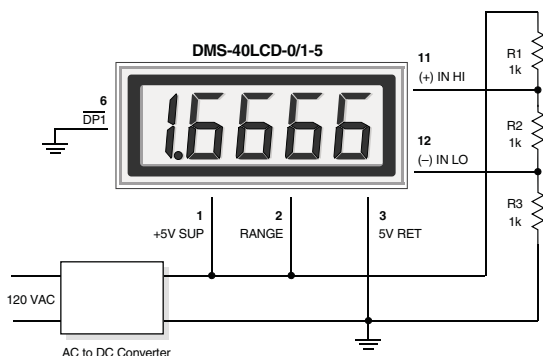

Figure 3. Differential Input Configuration (5V-Powered Models)
- 2. Differential Input Configurations:** Differential measurements can be made with either 5V-powered or 9V-powered meters. Figure 3, though not a practical real-world application, uses a voltage divider to demonstrate the concept of a differential input signal. Be careful not to exceed the ±2V common mode voltage limitation for 5V-powered meters.